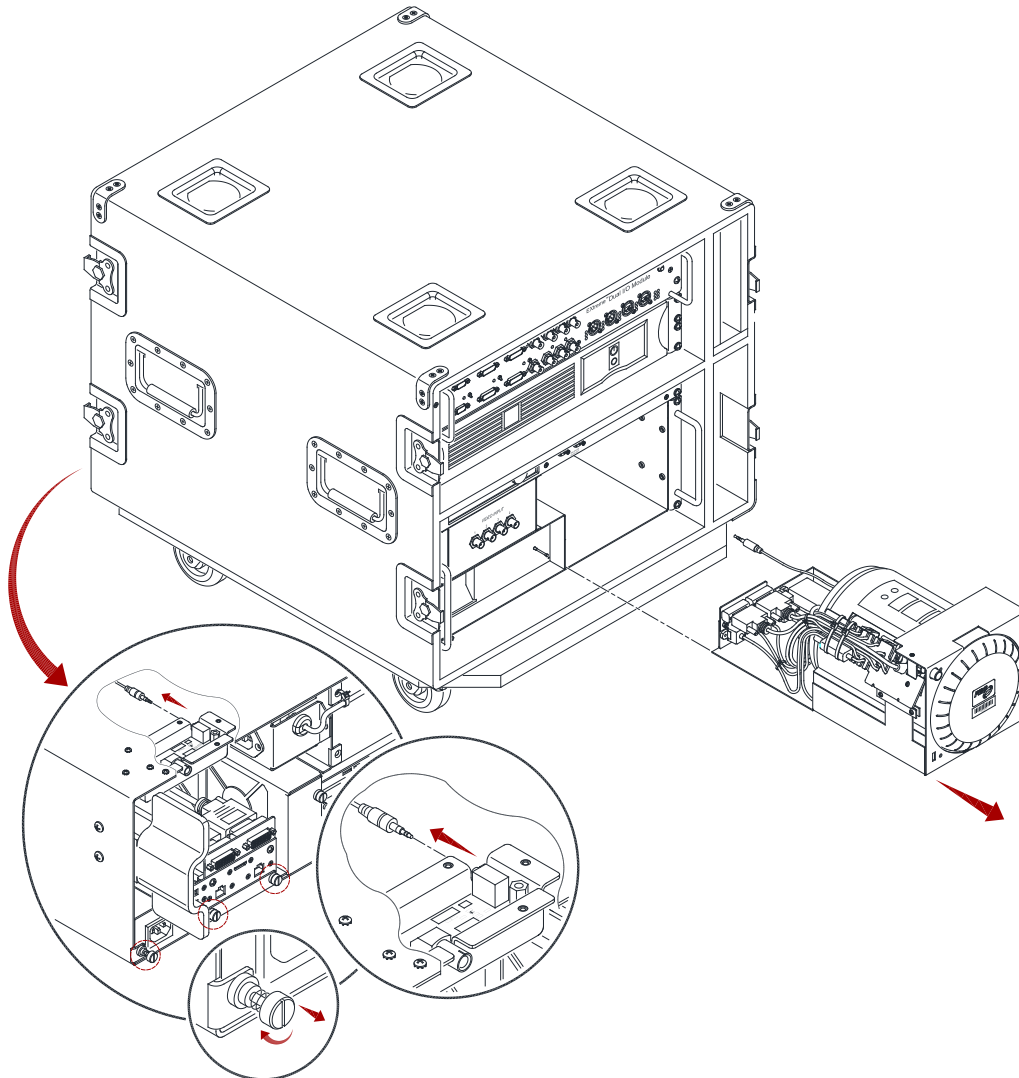

Figure B-2: Computer Removal
- Step 4. Carefully slide the computer enclosure out of the case, checking for cables or connectors that may become caught. (Figure B-2).